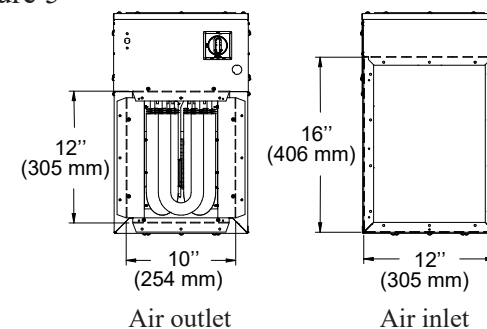

Figure 6
- Unscrew the cap and push the reset button on the hi-limit body inside the connections box to reset the hi-limit (Figure 6).